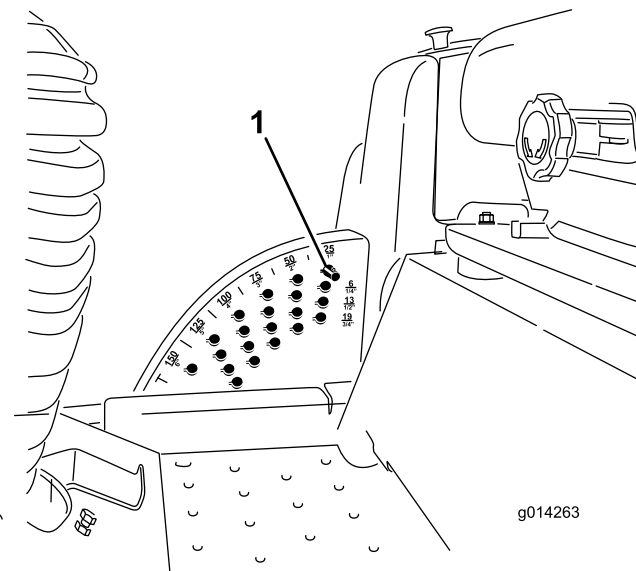

Figure 6
1. With the engine running, push back on the mower lift switch until the mower is fully raised and **release the switch immediately** (Figure 6).
2. To adjust, rotate the stop pin until the nub on it lines up with the slots in the holes in the height-of-cut bracket and remove it (Figure 6).
3. Select a hole in the height-of-cut bracket corresponding to the height-of-cut desired, insert the pin, and rotate it down to lock it in place (Figure 6).
Note: There are four rows of hole positions (Figure 6). The top row gives you the height of cut listed above the pin. The second row down gives you the height listed plus 6 mm (1/4 inch). The third row down gives you the height listed plus 12 mm (1/2 inch). The bottom row gives you the height listed plus 18 mm (3/4 inch). For the 15.8 cm (6 inch) position there is only one hole, located in the second row. This does not add 6 mm (1/4 inch) to the 15.8 cm (6 inch) position.